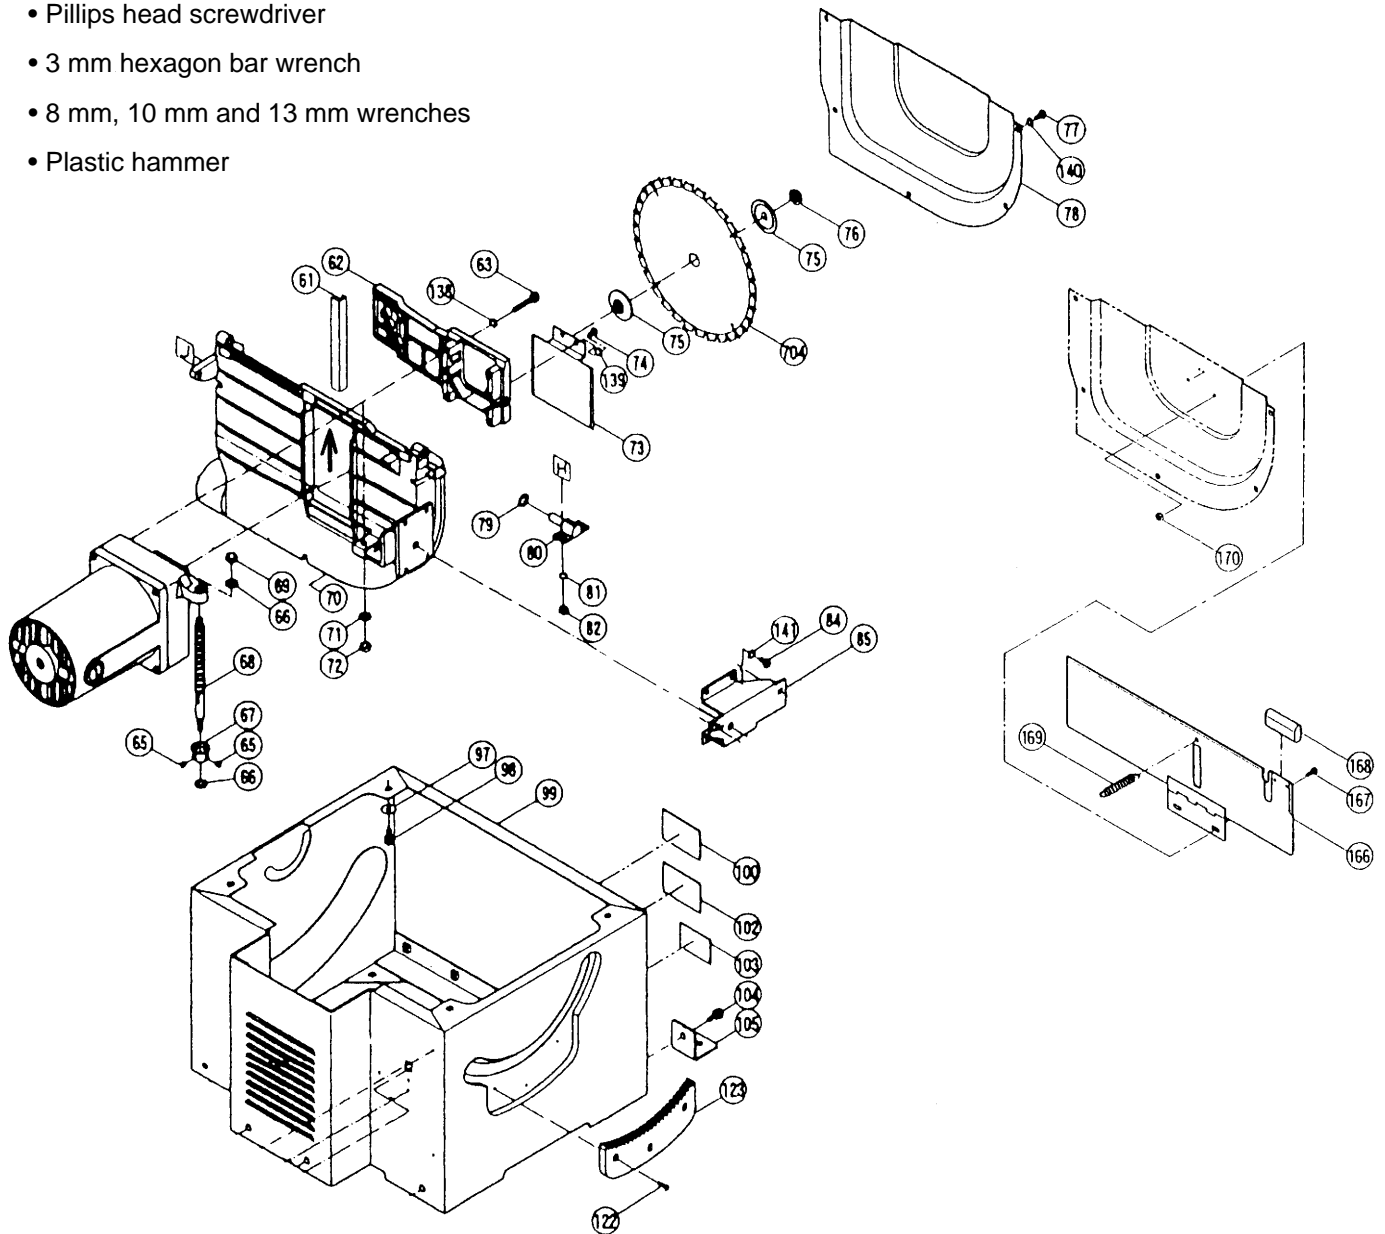

Fig. 4
- (4) Remove the M6 x 12 Machine Screw **[74]**, and remove the Guard **[73]**.
- (5) Hold the Screw Bar **[68]** using an 8 mm wrench, and remove the M6 Special Nut Chuck **[72]** with a 10 mm wrench.
- (6) Slide the Bracket **[211]** upward (in the direction of the arrow in Fig. 4) and loosen the two M6 x 6 Hex. Socket Set Screws **[65]**. Remove the M8 x 14.3 Flat Washer **[66]** and Bevel Fear (B) **[67]** from the Screw Bar **[68]**.
- (7) Remove the four M6 x 35 Bolts **[63]** using a 10 mm wrench, and remove the Slide Bracket **[62]** and Bracket **[211]**.